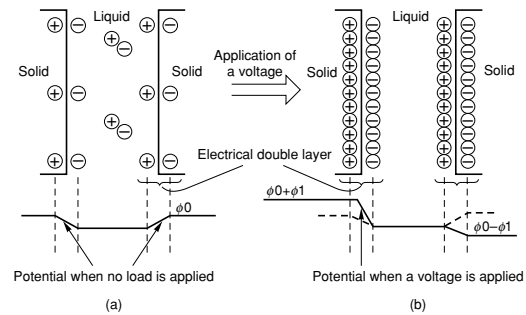

Fig. 2 Basic Structure of SuperCapacitor
Figure 2 shows a conceptual drawing of the basic structure of SuperCapacitor.
According to Helmholtz's theory, there is a potential gradient only in the electrical double layer, and their respective potential curves are as shown in Figures 2 (a) and 2 (b). In Figure 2(b), if ψ and η , when no load is applied, are ϕ_0 and η_0 , respectively, then η_0 is represented by expression (2).
Then, if an external electrical field is applied, charge is accumulated on the boundary surface as shown in Figure 2 (b). At this time, suppose ψ_0 becomes ψ_1 and η_0 becomes η_1 , then η_1 is represented by expression (3).